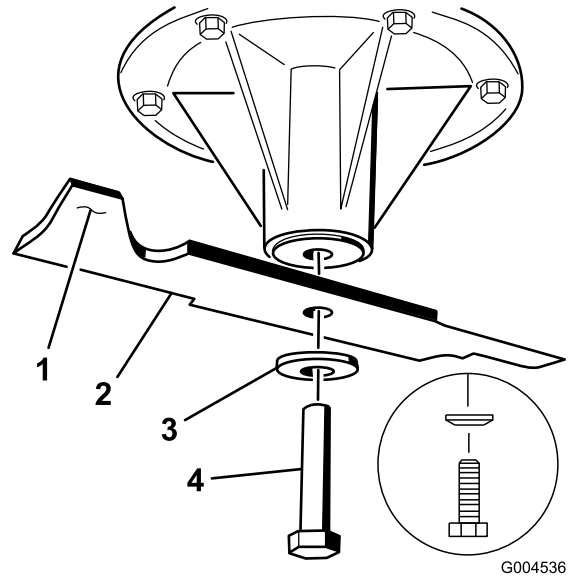

Figure 95
2. Remove the blade bolt, the curved washer, and the blade from the spindle shaft (Figure 95).
3. If the blade is not balanced, file some metal off the end of the sail area only (Figure 95).